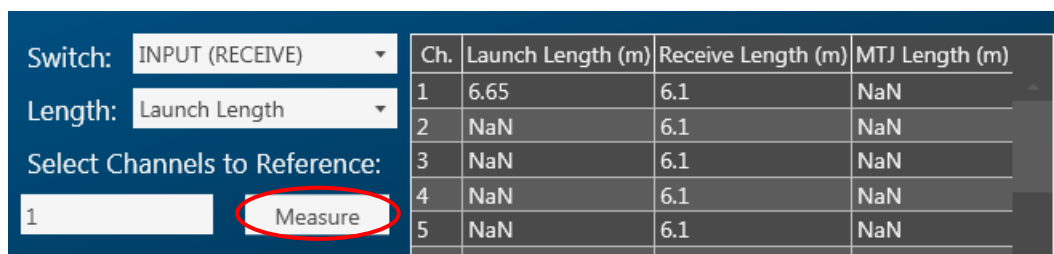

Figure 27: Measure launch length of the input switch
- Without changing the optical connections, measure the launch length of the input switch on channel 1 (Figure 27).